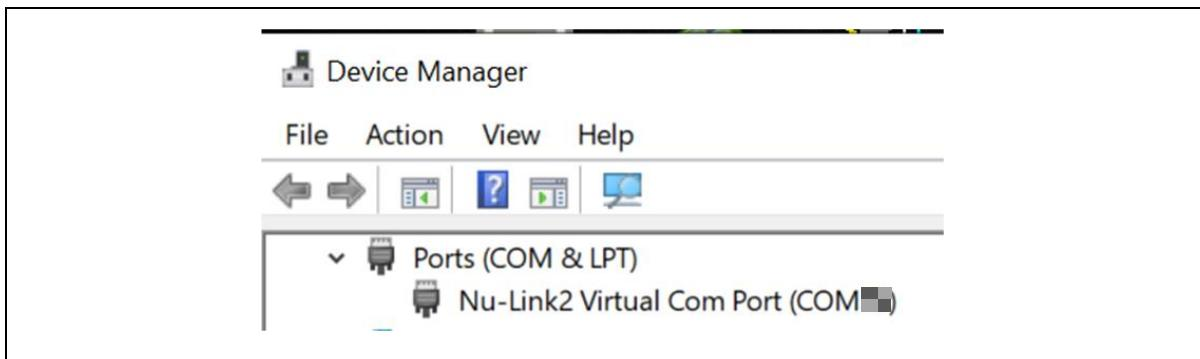

Figure 4-5 Device Manager
3. Find the “Nuvoton Virtual COM Port” on the Device Manager as Figure 4-5.